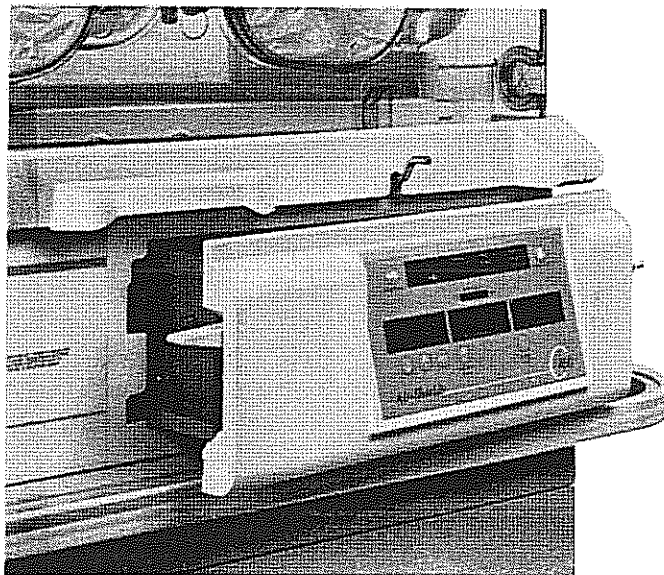

FIGURE 4.1 REMOVAL OF CONTROLLER
- A. **REMOVE THE CONTROLLER.** Disconnect the Power Cord and Probes from the side of the Incubator. Release the latch on each side of the Controller as shown in Figure 4.1, then withdraw the unit from the Incubator.